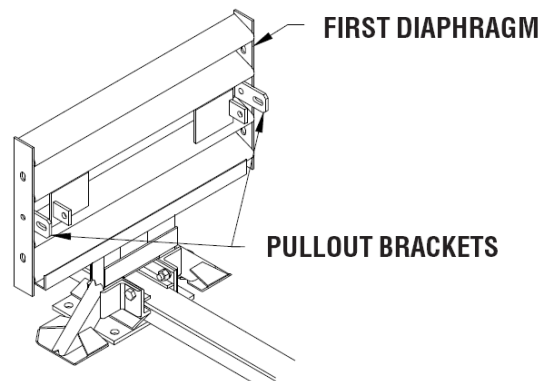

Figure 72
- 7) Attach 3/8" [10 mm] x 20' [6 m] Grade 40 chain to Pullout Brackets on first Diaphragm (Figure 72). Attach both ends of chain to a heavy vehicle (such as a 1 ton pickup).